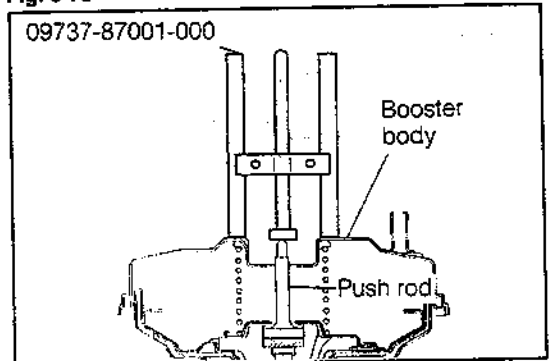

Fig. 8-74
- (2) Set the SST as indicated in Fig. 8-74. Adjust the push rod so that the push rod clearance may become zero.
- (3) Perform the adjustment of the push rod clearance by turning the nut provided at the tip end of the push rod.